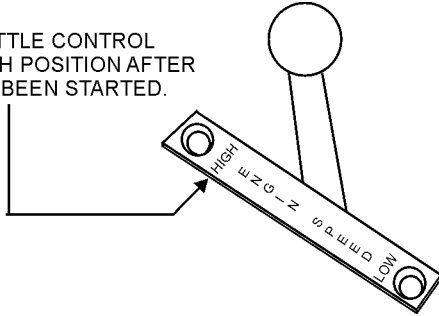

Figure 10. Engine Throttle Control Lever (High)
8. Place the **engine throttle lever** (Figure 10) in the **HIGH** position.